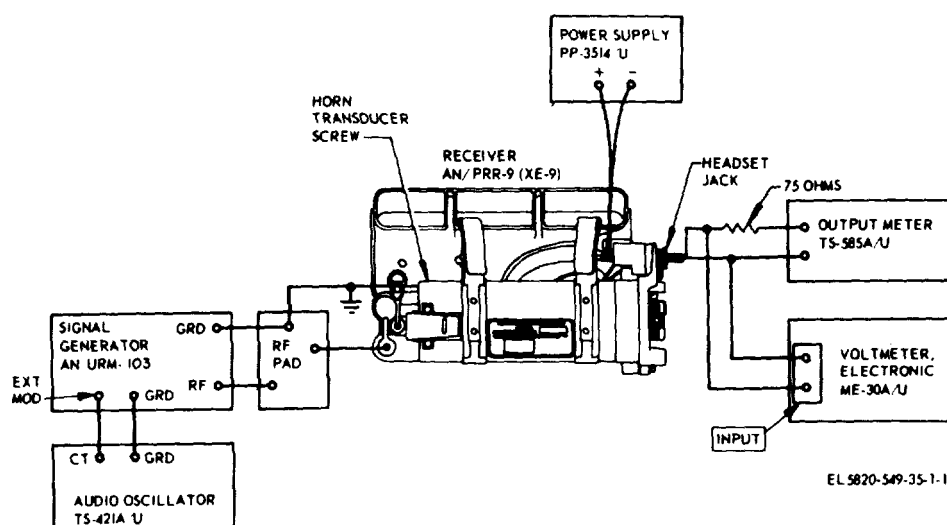

Figure 4-4. AN/PRR-9(XE-9) audio frequency response test.
a. Connect the test equipment as shown in figure 4-4.